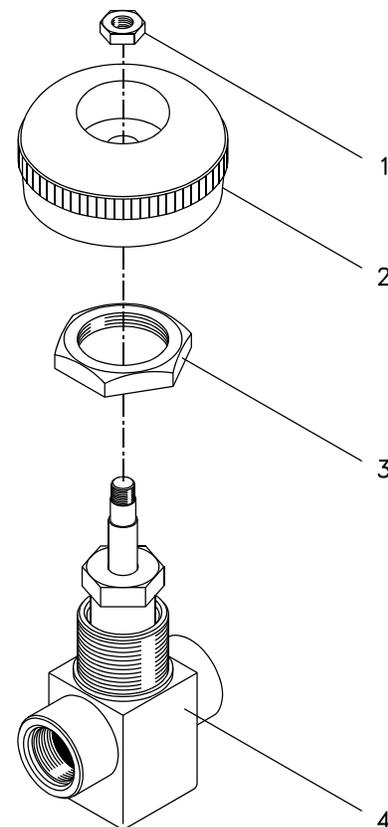
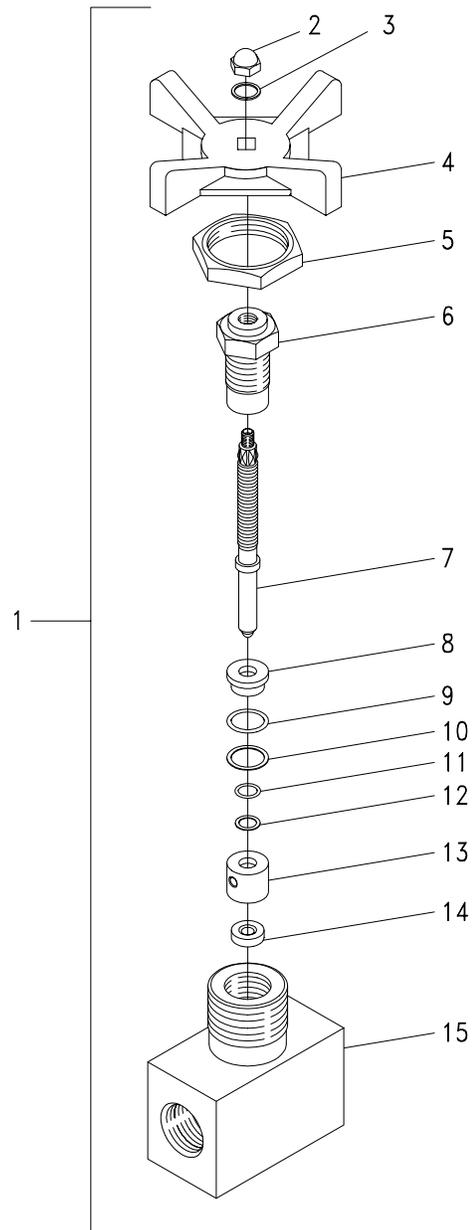
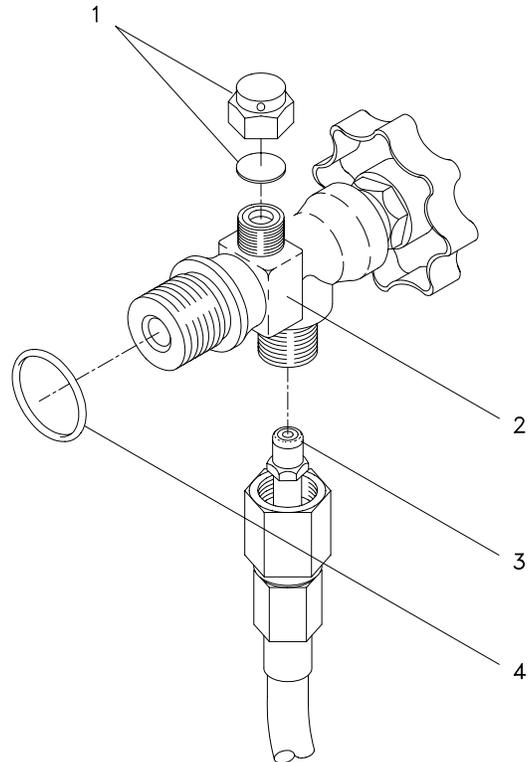

Figure 6-13. Circle Seal HP Isolation Valves (AHP-V501 thru AHP-V504 and AHP-V601)
Figure 6-14. CPV HP Isolation Valves (AHP-V501 thru AHP-V504 and AHP-V601)
Figure 6-15. Flask Shutoff Valves (AHP-V505, AHP-V506, AHP-V507) and Softseat
- (4) Remove bagging from hose or cross fitting. Install new softseat (Figure 6-15, 3) on hose or cross nipple.
Although corrective maintenance of the Circle Seal valves is limited to removal and replacement in this chapter, repair of the valves is also authorized and can be accomplished using the repair kit in Figure 7-29 and instructions from the manufacturer. In the following procedure, note that all four valves must be removed from the panel but only the damaged/defective valve should be replaced. Unless otherwise noted, refer to Figure 6-13 for parts location and to Figure 7-29 for an index of parts.
- (1) Remove flex hose assemblies from adapter fittings on AHP-V501, -V502, and -V504.
- (2) Remove softseats (Figure 6-15, 3) from the three exposed hose nipples and discard. Bag open ends of hoses H-502 and H-505.
- (3) Remove panel mounting screws, washers, and nuts (three sets) from flask rack assembly panel, and remove panel from rack.
- (4) Remove hex nuts (Figure 6-13, 1) from handles (2) of all four valves, and remove handles from valve stems.
- (5) AHP-V503 only: Loosen union nut and disconnect tubing from positionable elbow. Remove, cut, and discard O-ring.
- (6) Remove panel nuts (3) from all four valves, and remove manifold assembly from panel. Retain valve spacers for later use.
- (1) Inspect new valve to ensure that chrome button has been discarded from handle and that valve has been cleaned in accordance with MIL-STD-1330 or another approved NAVSEA cleaning procedure for life support systems.
- (2) Remove hex nut (1), handle (2), and panel nut (3) from new valve.
- (3) Using approved lubricant, lubricate two new O-rings (M83248/2-906) and install one on each side of union connector. Install union connector on manifold end of new valve, and install new valve on manifold assembly.
- (4) Using approved lubricant, lubricate one new O-ring (M83248/2-906). If replacing AHP-V501, AHP-V502, or AHP-V504: Install O-ring on valve end of adapter fitting, and install adapter fitting on valve. If replacing AHP-V503: Install O-ring on valve end of positionable elbow and install elbow on valve.
- (5) Position manifold assembly behind panel with one valve spacer positioned between each valve and panel. Insert valve bodies (4) through panel, and secure with panel nuts (3).
- (6) Place handles (2) on valve stems and secure with hex nuts (1).
- (7) Reinstall panel on flask rack assembly and secure with the three sets of panel mounting screws, washers, and nuts.
- (8) AHP-V503 only: Using approved lubricant, lubricate new O-ring (M83248/2-111) and install in groove on positionable elbow. Connect tubing to elbow and tighten union nut.
- (9) For AHP-V501, AHP-V502, and AHP-V504: Install a new softseat (Figure 6-15, 3) on each of the three hose nipples, and connect flexible hose assemblies to valve adapter fittings. (See Figure 7-14 for softseat ordering information.)
- (10) Pressurize flask rack assembly. Using NID solution prepared in accordance with paragraph 4.7.3.2, check valves and valve connections for leaks and correct as necessary.
- (11) Complete reentry control report and log.
Remove and repair or replace damaged/defective CPV HP isolation valves in accordance with the following procedure. Although all four valves must be removed from the panel for this procedure, only the damaged/defective valve needs to be replaced. Unless otherwise noted, refer to Figure 6-14 for parts location and to Figure 7-28 for an index of parts.
- (1) Remove flex hose assemblies from valve adapter fittings on AHP-V501, AHP-V502, and AHP-V504.
- (3) Remove panel mounting screws, washers, and nuts (three sets) from flask rack assembly panel; remove panel from rack.
- (4) Remove acorn nuts (Figure 6-14, 2), lock washers (3), and handles (4) from all four valves.
- (6) Remove panel nuts (5) from all four valves, and remove manifold assembly from panel. Retain valve spacers for later use.
- (7) Remove valve and union connector from manifold assembly. Remove, cut, and discard O-ring.
- (1) For replacement valve only: Ensure valve has been cleaned in accordance with MIL-STD-1330 or another approved NAVSEA cleaning procedure for life support systems. Remove acorn nut (2), lock washer (3), handle (4), and panel nut (5) from new valve (1).
- (2) Using approved lubricant, lubricate two new O-rings (M83248/2-906) and install one on each side of union connector. Install union connector on manifold end of valve (1), and install valve on manifold assembly.
- (3) Using approved lubricant, lubricate one new O-ring (M83248/2-906). If replacing AHP-V501, AHP-V502, or AHP-V504: Install O-ring on valve end of adapter fitting, and install adapter fitting on valve. If replacing AHP-V503: Install O-ring on valve end of positionable elbow and install elbow on valve.
- (4) Position manifold assembly behind panel with one valve spacer positioned between each valve and panel. Insert valve bodies (15) through panel, and secure with panel nuts (5).
- (5) Install handles (4), lock washers (3), and acorn nuts (2) on all four valves.